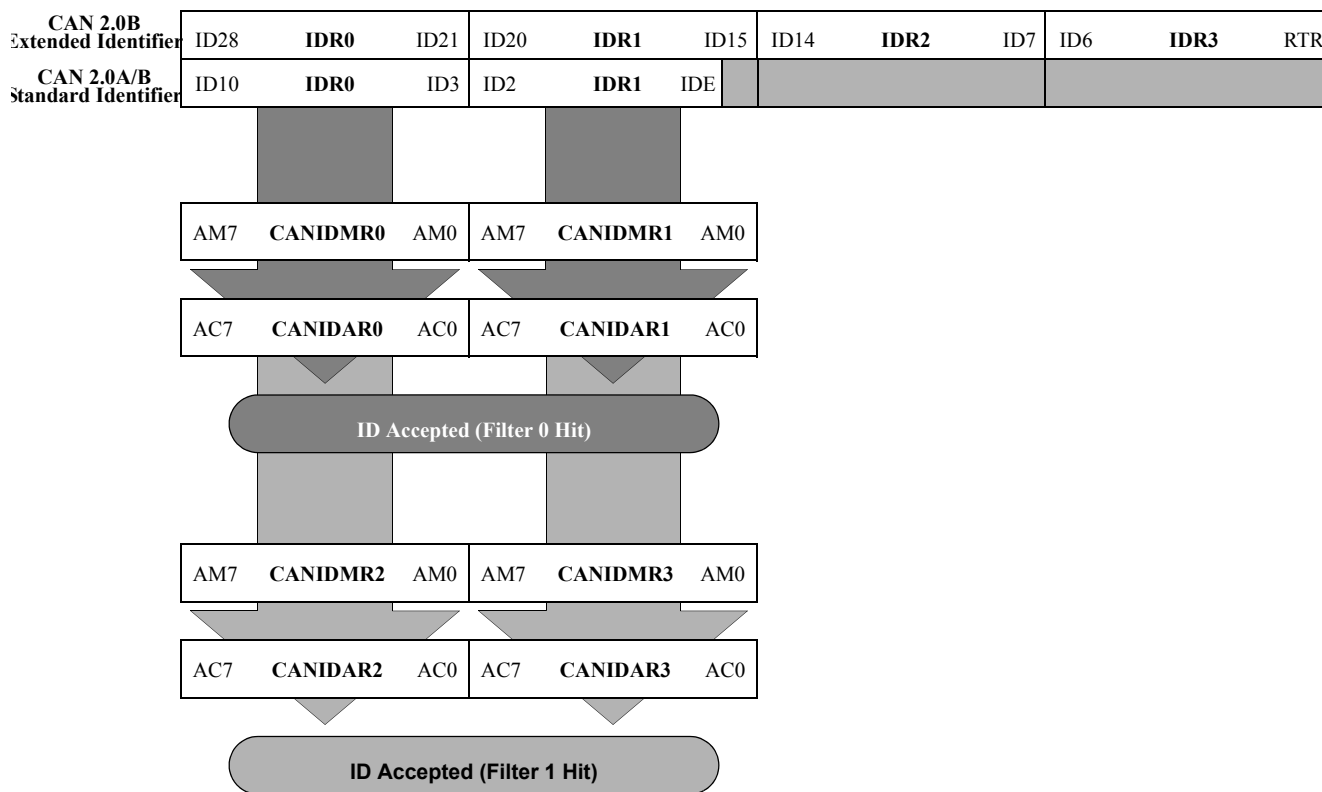

Figure 92. 16-bit Maskable Identifier Acceptance Filters
- The 11 bits of the standard identifier, the RTR and IDE bits of CAN 2.0A/B messages. Figure 92 shows how the first 32-bit filter bank (CANIDAR0–CANIDAR3, CANIDMR0–CANIDMR3) produces filter 0 and 1 hits. Similarly, the second filter bank (CANIDAR4–CANIDAR7, CANIDMR4–CANIDMR7) produces filter 2 and 3 hits.